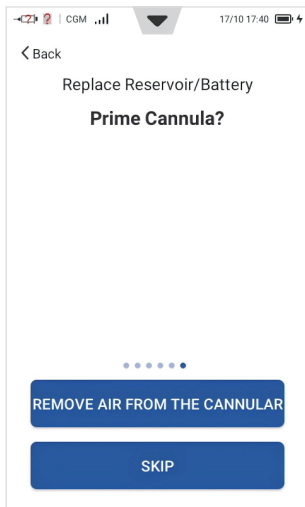

Figure 59
5. Now choose whether or not to prime the cannula (Figure 59). Upon completion, the pump will begin to deliver.